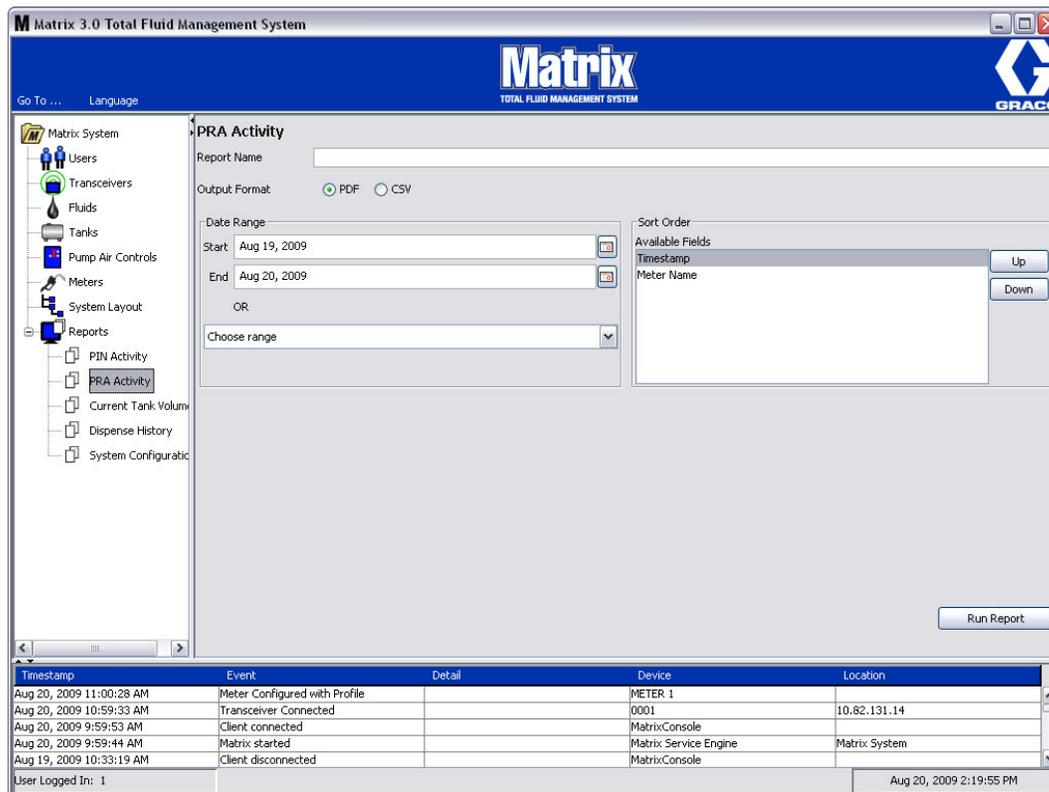

FIG. 103
- **PRA Activity Screen (FIG. 103)**